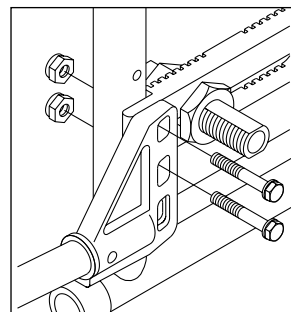

Figure 31
2. Adjusting Anti-Tip Receiver (Fig. 31)